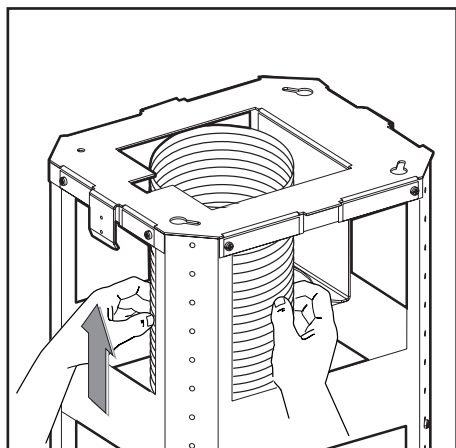

Fig.7
- Fix the flexible pipe to the prepared air evacuation hole (Fig.7).